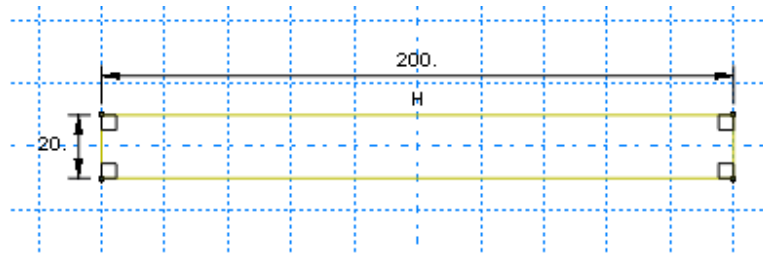

Figure W1-6 Sketch of the rectangle.
- e. The final sketch is shown in Figure W1-6.